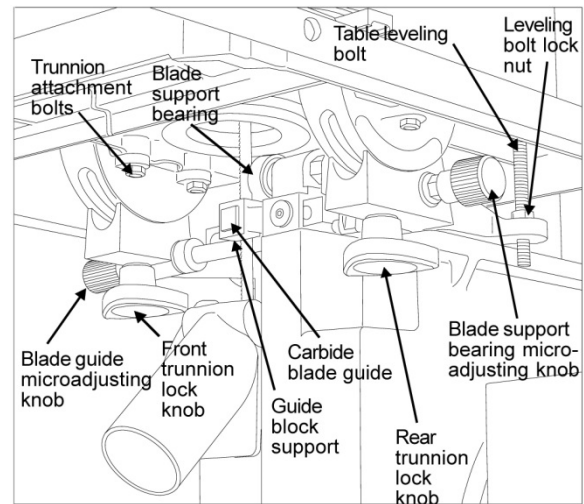

Figure 13: Lower Blade Guide Support – Rear View
3. If the measurements are not equal at both ends of the slot, loosen six bolts securing the table to the table trunnions (see Figures 13 and 14.)
17. Using the micro-adjusting knob, move the lower blade support assembly (Refer to Figure 13) forward until the support bearing just contacts the back edge of the saw blade.